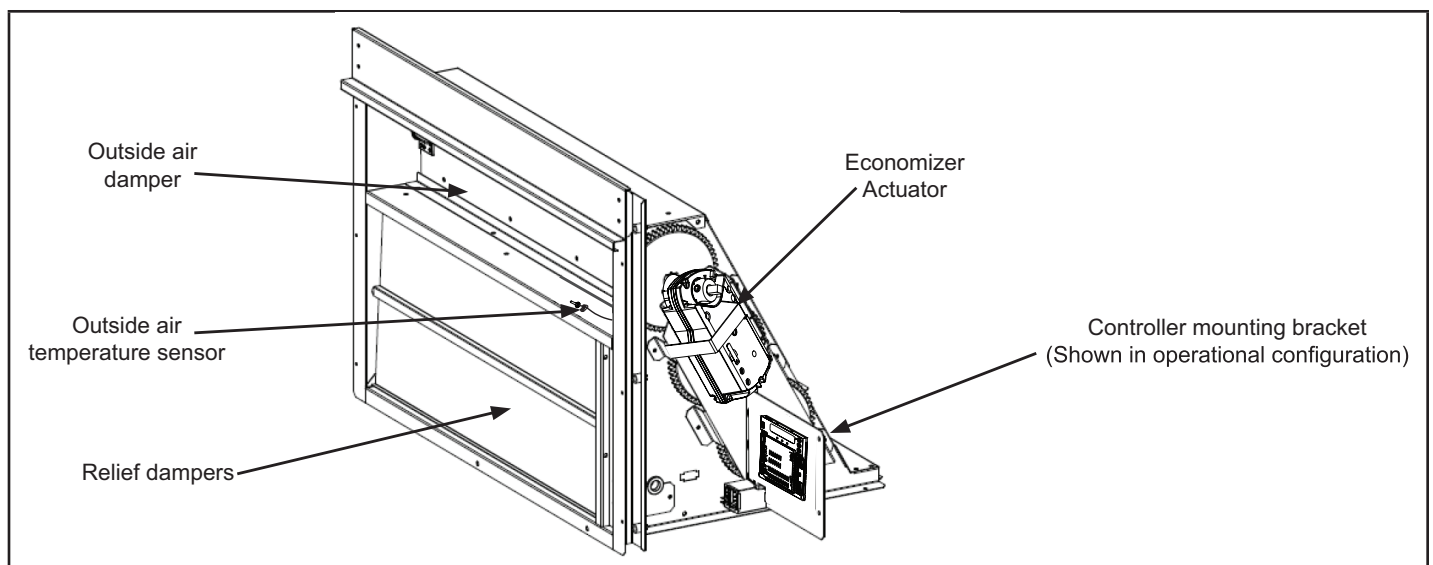

FIGURE 4
- 3 - Remove two screws that hold the controller mounting bracket and turn controller bracket from its shipping position 90° so the display faces the installer once economizer is installed in unit. See FIGURE 4.